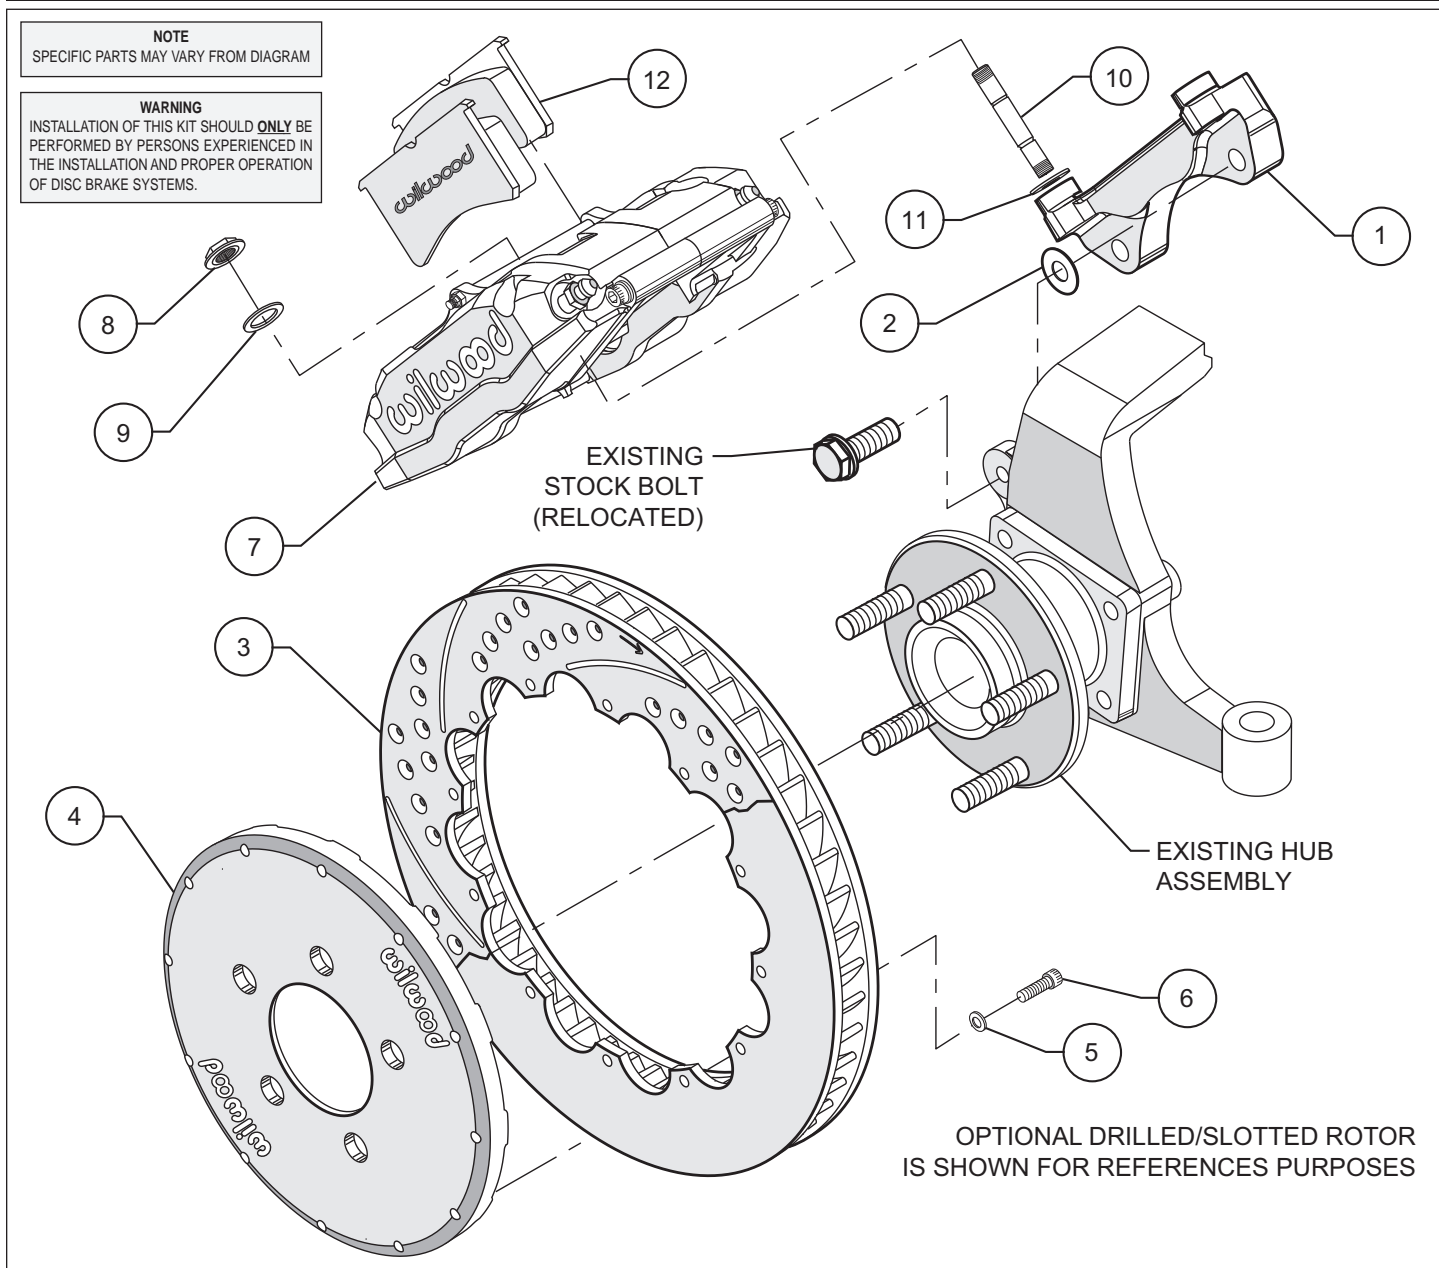
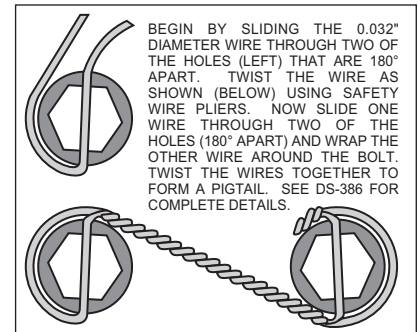

Figure 1. Typical Installation Configuration
Figure 3. Safety Wire Diagram
- The caliper mount bracket assembly (1) should be installed first with clean, dry threads on the mounting bolts. Install the bracket using the original caliper mount bolts. The bolts will now pass through the spindle from the opposite direction that they were removed (see figure 1). The bracket must tighten squarely against the inboard side of the caliper mount bosses on the spindle body. Inspect for interference from casting irregularities, machining ridges, burrs, etc. Use one thin shim (2) between the bracket and spindle during initial trial fitting. Later, after the caliper, pad, and rotor alignment has been checked, and any necessary shims have been put in place, the mount bolts should be coated with red *Loctite*® 271 and torqued to 65 ft-lbs.
- Assemble the rotor (3) to the hat (4) with the bolts (6) and washers (5) provided in the configuration pictured in figure 1. Be sure all bolts thread in smoothly and are snug. Then, torque all bolts in an alternating sequence to 85 **in-lbs**. Safety wire bolts (6) using standard 0.032 inch diameter stainless steel safety wire as shown in Figure 3. Please refer to Wilwood's data sheet DS-386 (available at www.wilwood.org/ds386.pdf) for complete safety wire installation instructions.
- NOTE:** Please reference the caution statement at the beginning of the assembly instructions. Install one shim (11) over each stud (10) on the radial mount bracket. Slide the caliper (7) in place over the studs and rotors and install the washer (9) and lock nut (8) to hold the caliper in place. The caliper bleed screws should be pointing up. Snug the lock nuts (8) and check that the rotor (3) is centered in the caliper (7). Add or subtract .035" shims (2) as necessary between the mount bracket and the spindle to center the caliper.
- Remove the caliper center bridge pad retainer bolt, nut, and tube from the caliper. Slide the brake pads (12) into place. They should install easily without interference. Check that the outside radius of the brake pad is aligned with the outside diameter radius of the rotor face. Add or subtract shims (11) between the caliper and mount bracket to gain the proper alignment. Reinstall the center bridge pad retainer tube, bolt, and lock nut. The locknut should be snug without play in the bolt or tube. Be cautious not to over tighten.
- Once all clearances have been checked, remove the wheel, caliper, hat, and rotor from the spindle and hub. Secure the caliper mounting bracket (1) to the spindle using red *Loctite*® 271. Torque the bolts to 65 ft-lbs. Reinstall the hat and rotor assembly and again use several lug nuts to hold it in place. Lubricate caliper mounting studs and nuts with lightweight oil, reinstall the caliper, torque the caliper nuts (8) to 30-35 ft-lbs.
- Install braided flexline kit part number 220-6746 (not included). The 10mm x 1 to -3 (P/N 220-6890) male fitting installs to the stock bulkhead. Then install the straight 1/8-27 to -3 NPT (P/N 220-6956) fitting into the caliper (7). Finally, install the flex line (P/N 220-6411) to the two previously installed fitting. **NOTE:** OEM rubber brake hoses generally cannot be adapted to Wilwood calipers. The caliper inlet fitting is a 1/8-27 NPT. The preferred method is to use steel adapter fittings at the caliper, either straight, 45 or 90 degree and enough steel braided line to allow for full suspension travel and turning radius, lock to lock. **Carefully route lines to prevent contact with moving suspension, brake or wheel components.** Wilwood hose kits are designed for use in many different vehicle applications and it is the installer's responsibility to properly route and ensure adequate clearance and retention for brake hose components.